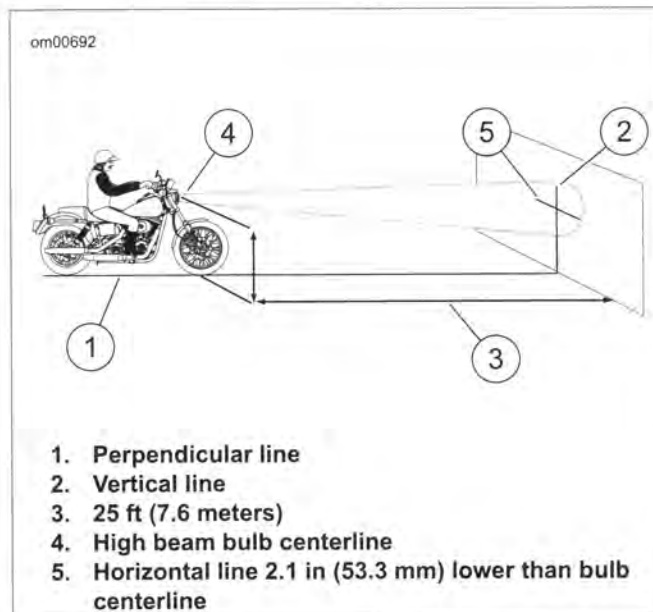
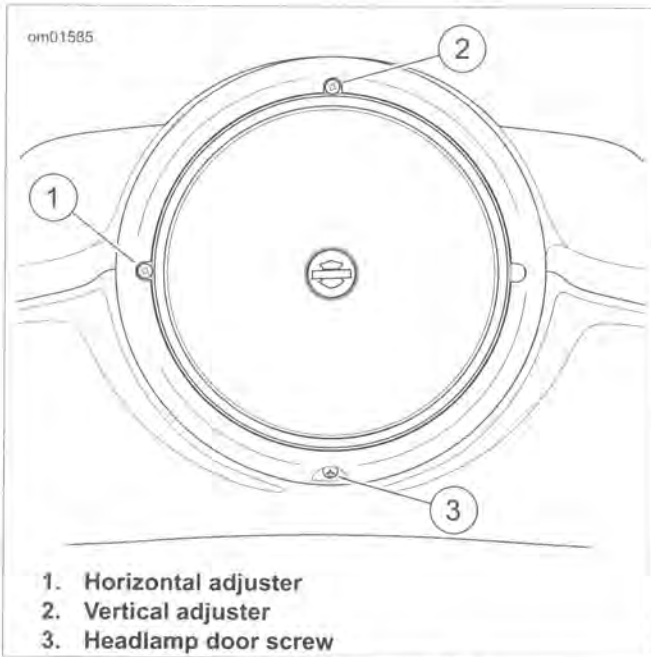

Figure 1-42. Checking Headlamp Alignment
Figure 1-45. Headlamp: FLD
4. See Figure 1-42. Park the motorcycle on a perpendicular line (1) with the front axle 25 ft (7.6 m) (3) from a wall.
5. Draw a vertical line (2) on the wall.
1. See Figure 1-45. Using adjuster slots in trim ring, insert Phillips screwdriver between headlamp trim ring and rubber gasket.
- a. **Horizontal:** Turn the horizontal adjuster (1) to adjust light beam left and right.
- b. **Vertical:** Turn the vertical adjuster (2) to adjust light beam up and down.
2. Adjust the light beam until it is centered as shown in Figure 1-42.